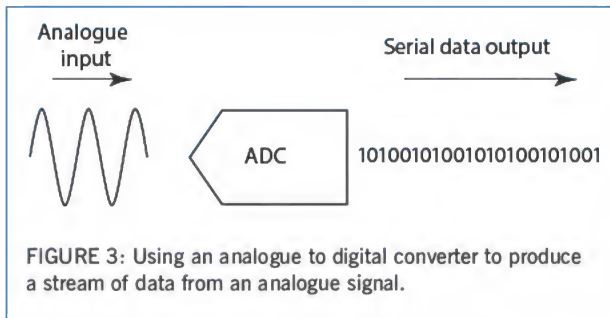
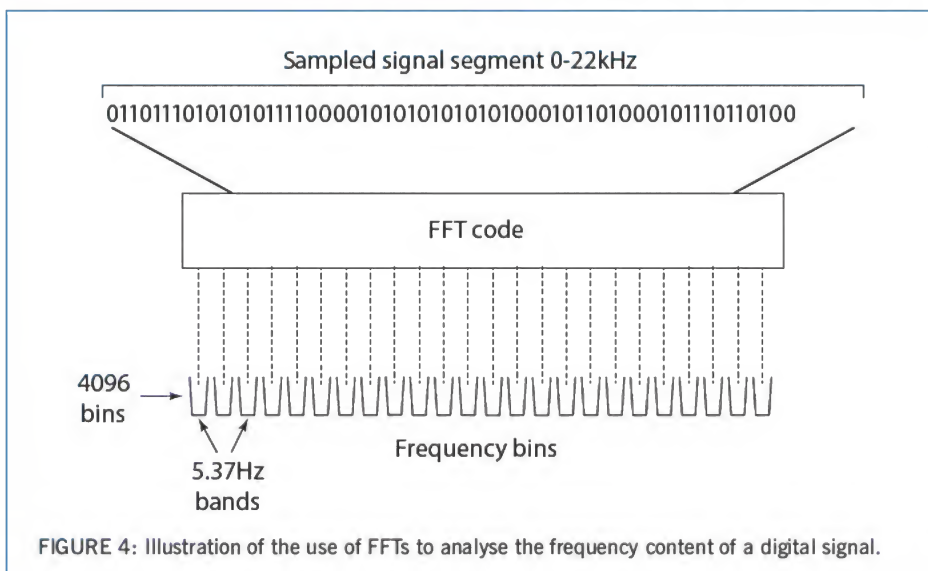

FIGURE 3: Using an analogue to digital converter to produce a stream of data from an analogue signal.
FIGURE 4: Illustration of the use of FFTs to analyse the frequency content of a digital signal.
ADCs comprises a string of binary numbers that's passed over a very high speed serial connection, see Figure 3.
**FAST FOURIER TRANSFORMS.** Don't panic, I'm not going to start delving into complex maths, but an overview of Fast Fourier Transforms (FFTs) will help you better understand SDRs. Let's start by assuming we have a signal that's been digitised. In that case, the output from the ADC will comprise a stream of binary numbers, as in Figure 3. How can we find out what frequencies are contained within that data stream? This is where FFTs come to the rescue. The Fourier series is a mathematical solution that allows any waveform to be decoded into a combination of sine waves of different frequencies. As you can imagine, Fourier analysis is a complex process that takes a lot of computing power. However, the Fast Fourier Transform (FFT), as the name suggests, is a quick way to carry out Fourier analysis with minimal processing power. FFTs operate by first of all taking a segment or block of the incoming digital data. The FFT then creates a number of bins (data stores), each of which is used to measure the power of a narrow frequency band from the incoming data segment, see Figure 4. As the data stream is processed, the bins are populated with the appropriate energy level for their narrow band. In an audio system with a sample rate of 44.4ksp/s and a FFT size of 4096 bins, we could expect to see audio frequencies from 0Hz to 22kHz. In this example each FFT bin would have a bandwidth of 5.37Hz (22,000/4096). Once the incoming data stream is split into sub-bands or bins we can use that information to drive a spectrum analyser display. Alternatively, we could use a similar principle to pass only signals from a range of bins, thus creating a very steep sided filter.